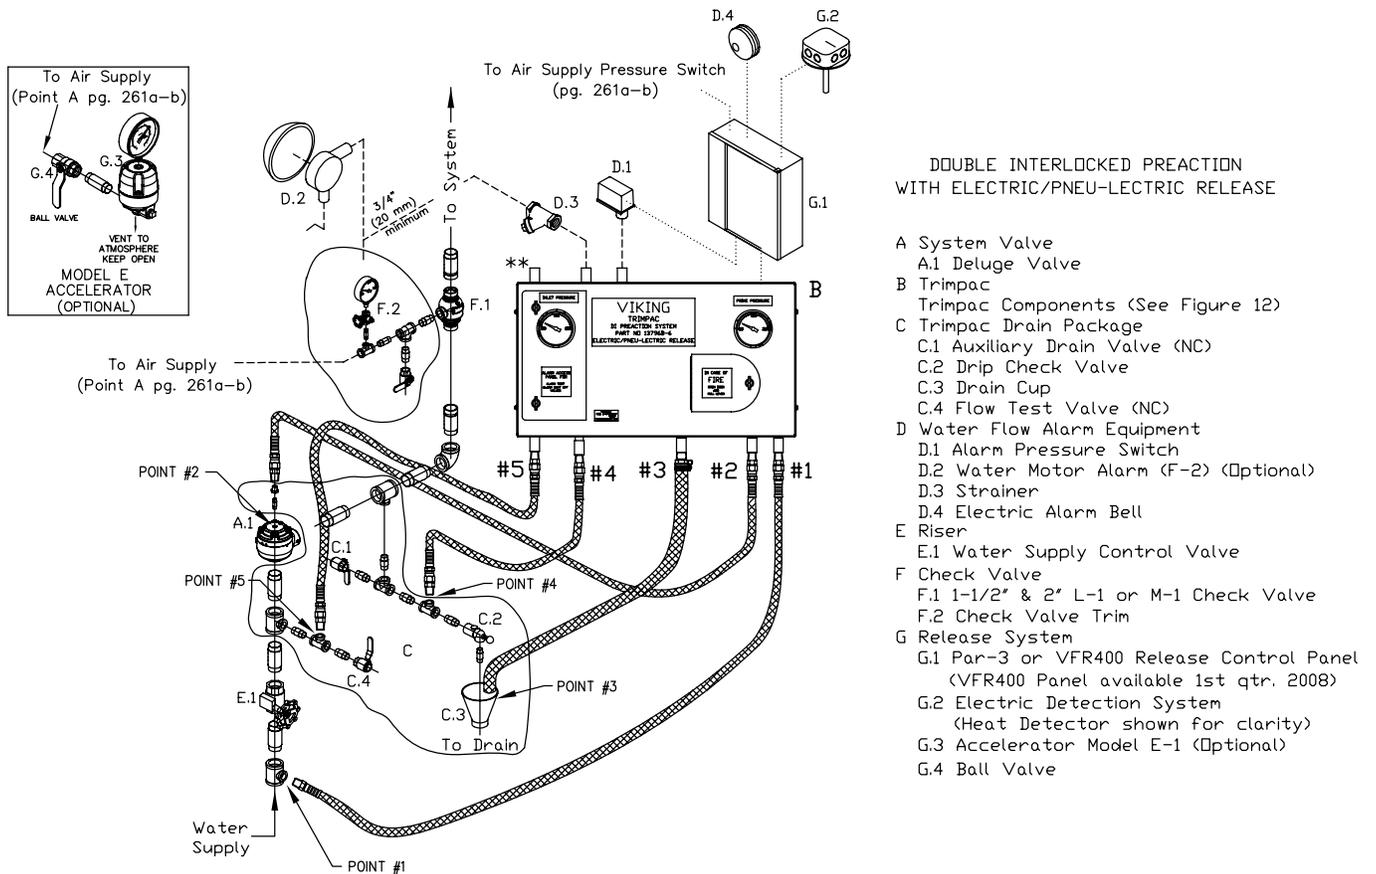

Figure 3
5. OPERATION (Refer to Figures 3 - 12.)
Table 1 - Trimpac® System Components Refer to Figures 3 through 12 for component identification.
Legend for Figures 3 - 10